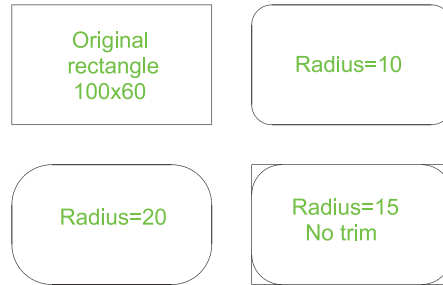

Fig. 5.42 Examples – Fillet
Examples – Fillet (Fig. 5.42)
1. Construct three rectangles 100 by 60 using either the **Line** or the **Polyline** tool (Fig. 5.42).
Three examples are given in Fig. 5.42.